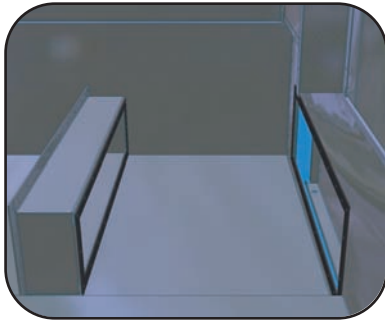

Figure 8
3. Wipe down the flanges on both ends of the flume box. On one end, apply a layer of 1/8" x 1" butyl sealer tape around the face of the flange over the centerline of the holes. Do not over lap or stretch too thinly at the corners. When it is necessary to splice the sealer, be sure to press the two ends together to form a smooth, continuous strip. Apply a second layer of sealer tape over the first layer following the same procedure. Refer to (Figure 8).